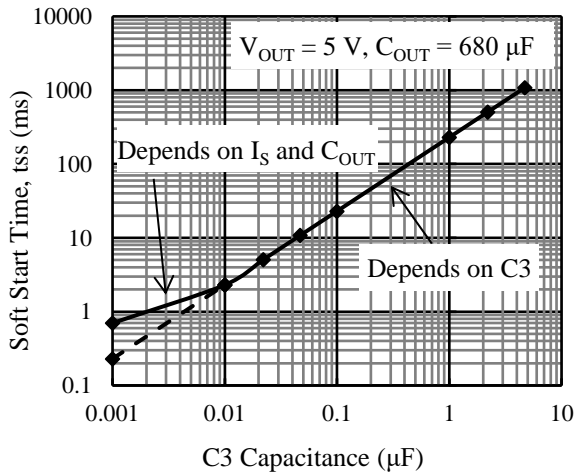

Figure 10-9. C3 Capacitance vs. t_{SS}
Figure 10-9 shows the relationship between the capacitance of C3 and t_{SS} . When the SS pin is open or the capacitance of C3 is extremely small, the soft start time is the time to charge C_{OUT} with the overcurrent protection start current, I_S (see Figure 10-9). The soft start time (at no load) is calculated by the Equation (5)